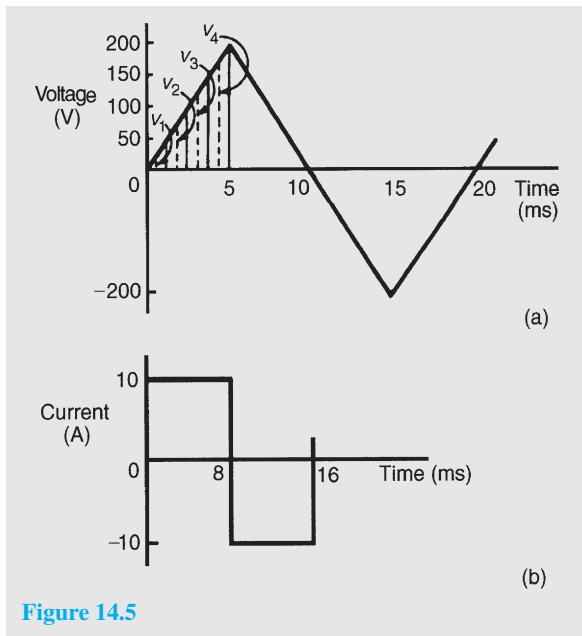

Figure 14.5
**Problem 4.** For the periodic waveforms shown in Fig. 14.5 determine for each: (i) frequency, (ii) average value over half a cycle, (iii) r.m.s. value, (iv) form factor and (v) peak factor.
(a) **Triangular waveform** (Fig. 14.5(a)).
- (iii) In Fig. 14.5(a), the first 1/4 cycle is divided into 4 intervals. Thus
(b) **Rectangular waveform** (Fig. 14.5(b)).